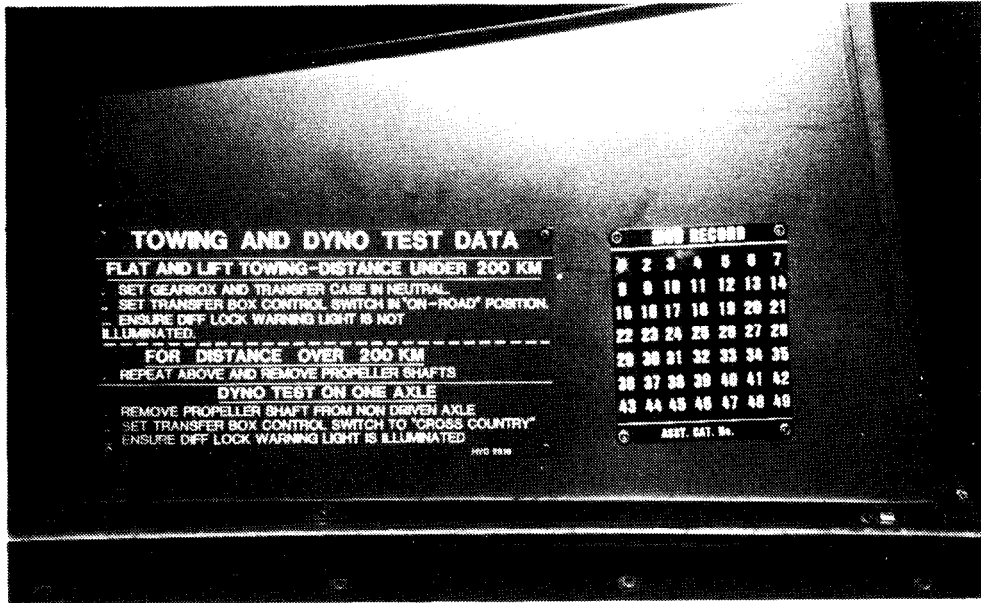

FIG 3 - LOCATION OF MODIFICATION PLATE
- c. Position the modification record plate, (item 1 from Table 1) as shown in Fig 3.